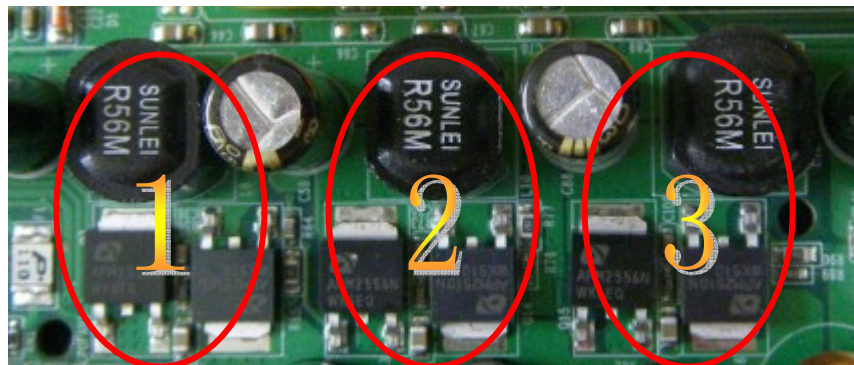

Figure 1
2. 3- Phase Power Supply Mold: motherboard with 3 inductances for CPU power supply, and each inductance carries with it 2 MOSFET (6 MOSFETs in total) (Figure1)